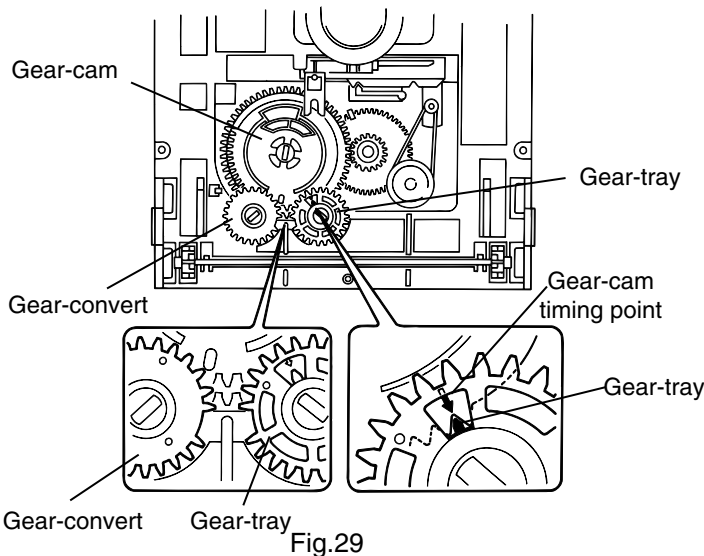

Fig.29
■Reinstall the CD tray (See Fig.29 to 30)
1. Align the gear-cam with the gear-tray as shown fig.29, then mount the CD tray.